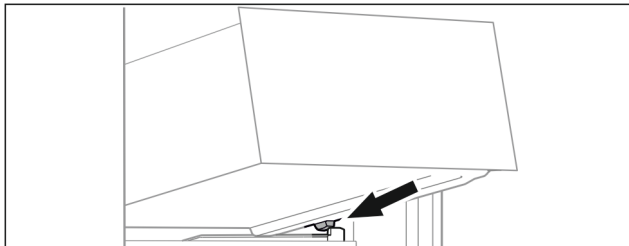

Fig. 189
- Place drawer at an angle behind the stoppers on the moulded rib. (see Fig. 189)